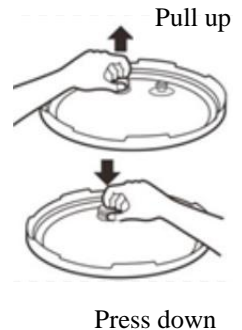

Figure 18
2. Use a non-abrasive sponge or damp wash cloth to clean the outer body (13). NEVER immerse the outer body (13) in any liquids or pour liquid into it.
3. Remove the Condensation Cup (12) and rinse it thoroughly and let dry. Clean the Inner Main Body (13) and Upper Ring (9) with a damp sponge or wash cloth.
4. Remove the pressure limiting valve (3) by gripping and firmly pulling upwards. Rinse with warm water and dry.
5. Clean the Lid (2) with warm soapy water, including the Rubber Seal Ring (18), Filter (17), Vent, Float Valve (4) and let dry thoroughly.
6. On the underside of the lid below the pressure limiting valve (3), is a small metal filter (17) which can be easily removed to clean (Figure 18).
8. Wash the Inner Pot (6), Wire Rack (20), and Tempered Glass Lid (21) with a non-abrasive sponge and allow to air dry or use a towel. It is not recommended to use any type of scouring pad that can scratch the non-stick surface of the Inner Pot (6).
To clean the filter (17), remove it by pulling vertically. To re-attach, simply line up the filter (17) and press down to secure the filter (Figure 18).